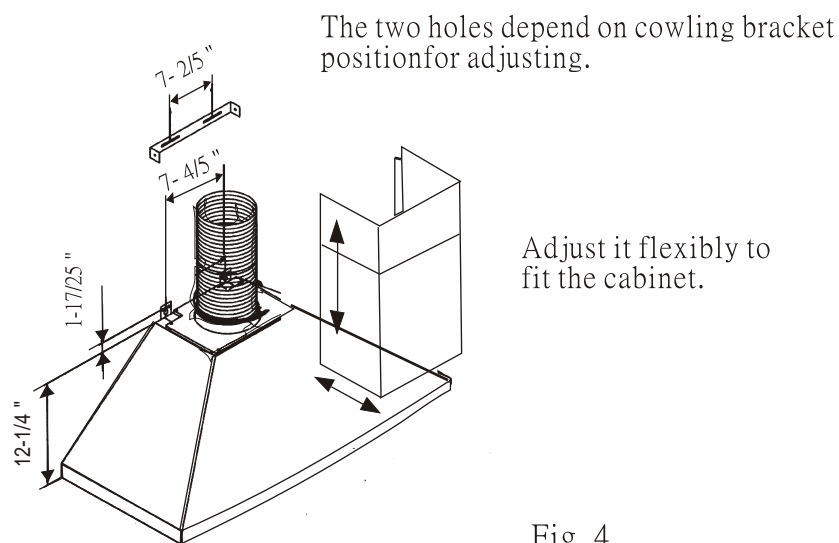

Fig. 4
Fit the Rangehood body at the correct height via the brackets to the mounting surface. (Refer Fig. 4 for mounting screw measurements). Locate the hanging screw allowing a distance of 5 mm of the screw head to the wall.
- B. To fit the duct to the top of the canopy, slide the bottom lip under the black mounting and then lock in to place with the 4 screws provided. (Fig. 4)